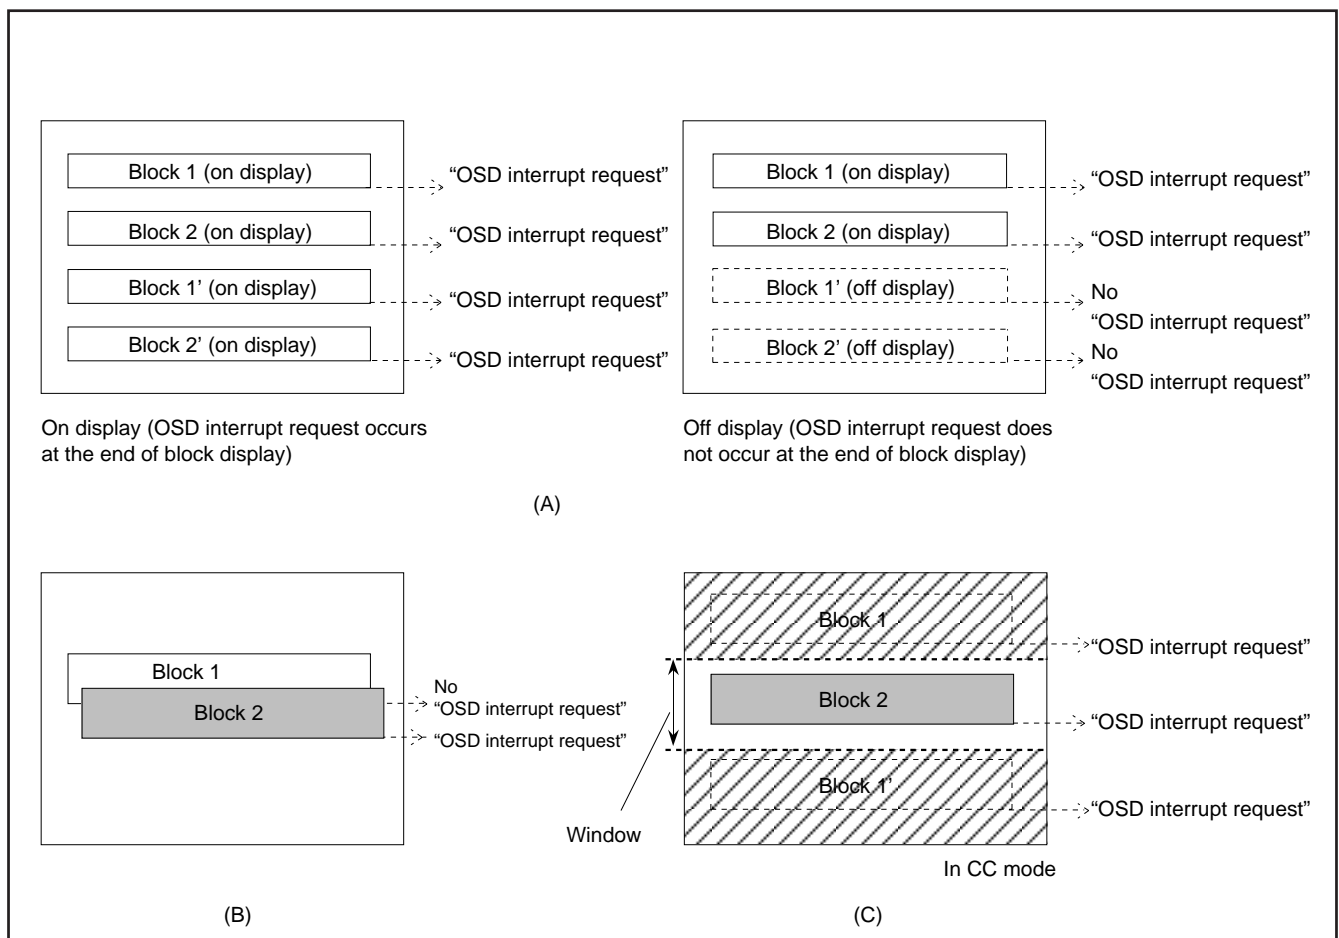

Fig. 8.11.24 Note on Occurrence of OSD Interrupt
- Notes 1:** An OSD interrupt does not occur at the end of display when the block is not displayed. In other words, if a block is set to display off by the display control bit of the block control register (addresses 00D216, 00D316), an OSD interrupt request does not occur (refer to Figure 8.11.24 (A)).
- 2:** When another block display appears while one block is displayed, an OSD interrupt request occurs only once at the end of the second block display (refer to Figure 8.11.24 (B)).
- 3:** On the screen setting window, an OSD interrupt occurs even at the end of the CC mode block (display off) out of window (refer to Figure 8.11.24 (C)).